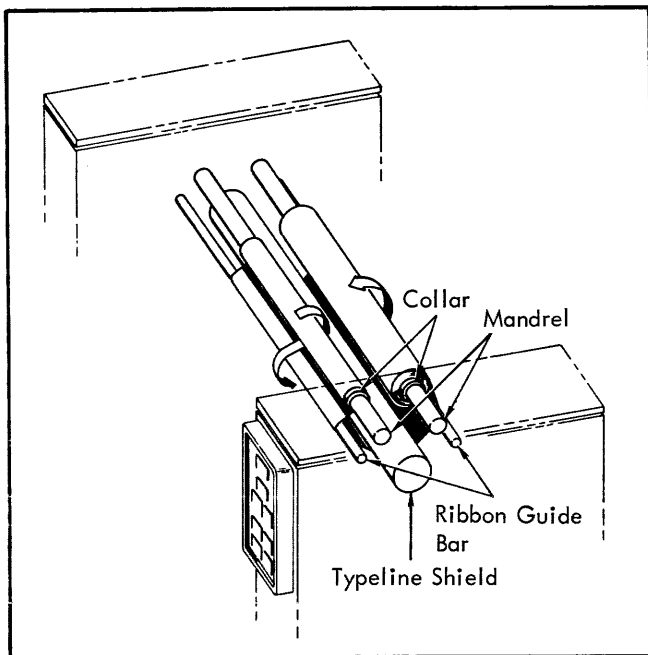

Figure 5. Ribbon Mounting
Note: Before starting the ribbon loading procedure, note the ribbon's path from the mandrels and around the guide bars is not symmetrical, and incorrect replacement of the ribbon can result in loss of print-out. Refer to Figure 5 for correct positioning.
- d. Slide new ribbon onto mandrel to unwind as shown in Figure 5 and seat ribbon firmly against the collar.
- g. Thread ribbon as shown in Figure 5 so that it goes around front ribbon guide bar, between typeline shield and paper table, and over rear ribbon guide bar.